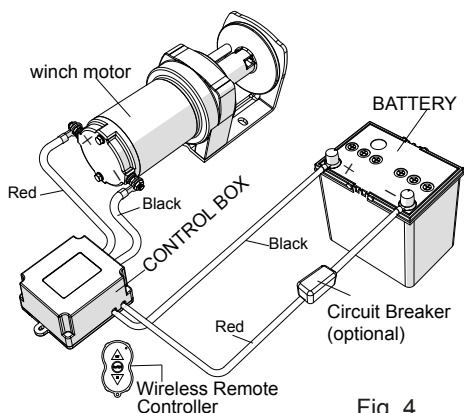

Fig. 4
1) Option 1- solenoid and wireless remote control (see Fig.4)